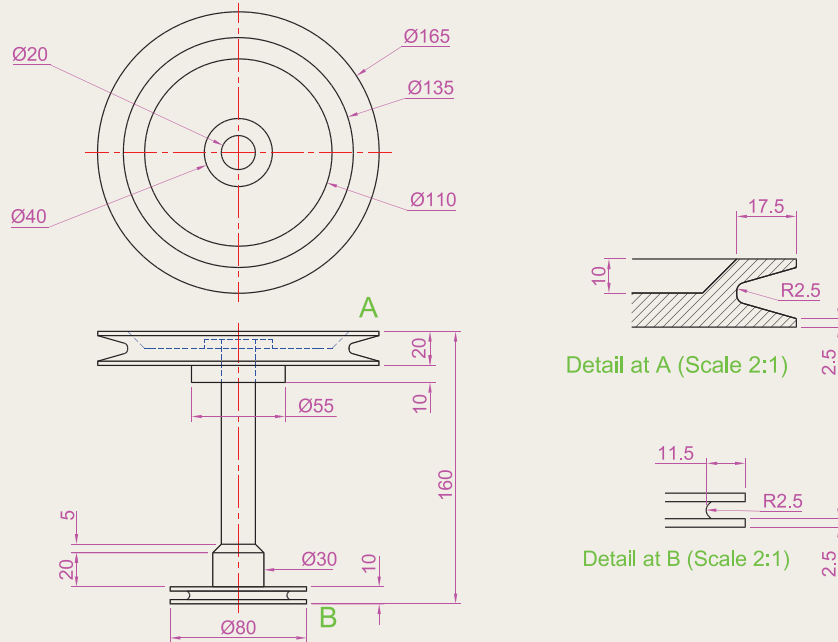

Fig. 12.54 Exercise 8
8. Working to the details given in the orthographic projection of Fig. 12.54, construct a 3D model of the assembly. After constructing the pline outline(s) required for